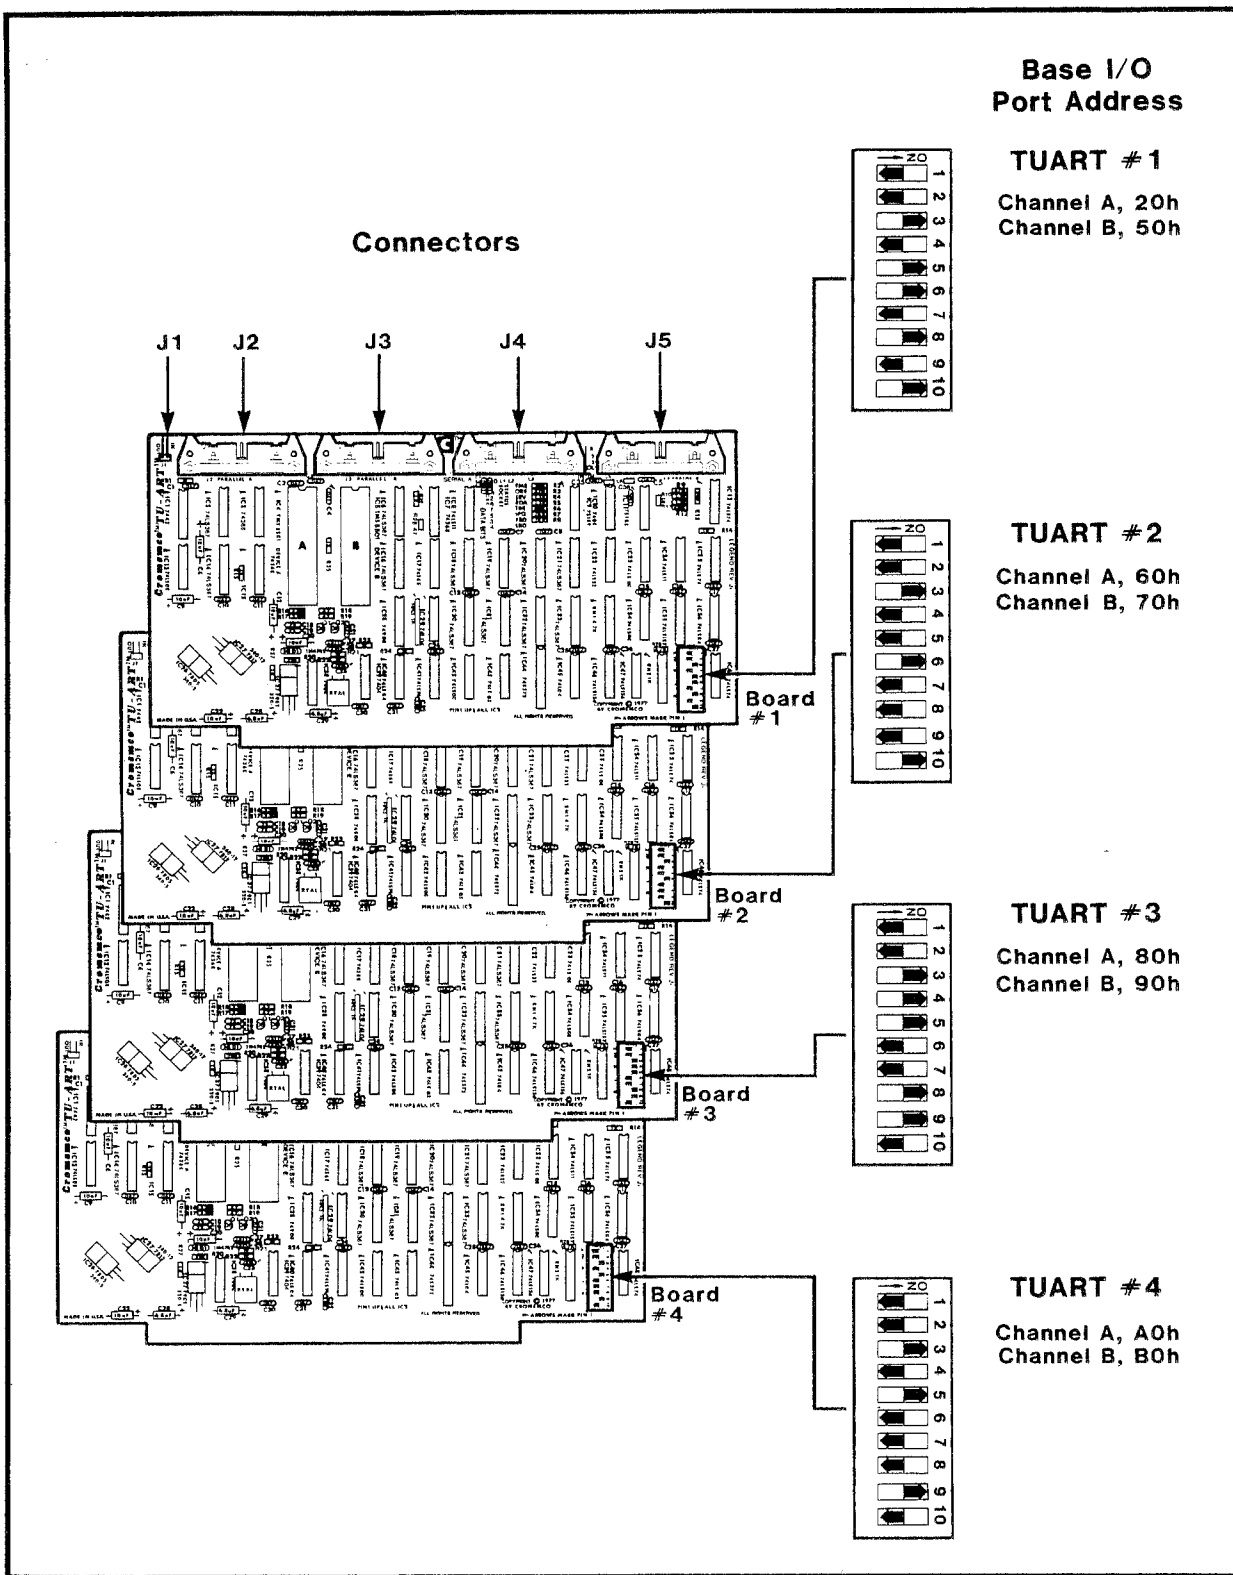

Figure 6-5: TU-ART SWITCHES
2. Set TU-ART switch SW-1 to select the correct S-100 I/O base addresses by referring to Figure 6-5.